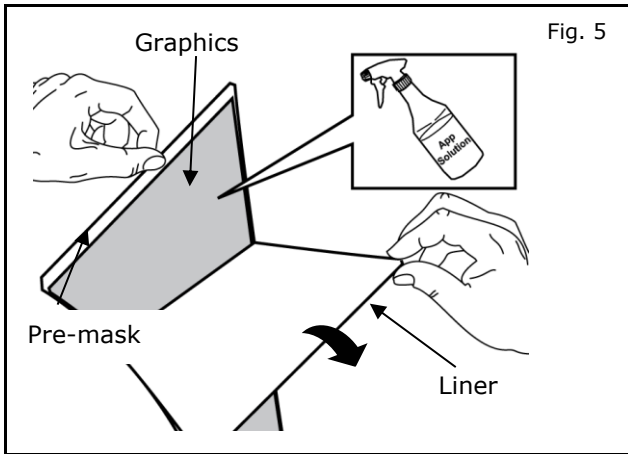

Fig. 5
- 7) Spray top of premask with installation fluid to aid in smooth squeegeeing. Beginning at the center of graphic, use squeegee to wet out graphic, working from the center out: first in a fore-aft direction, then in an up-down direction (Fig 5).